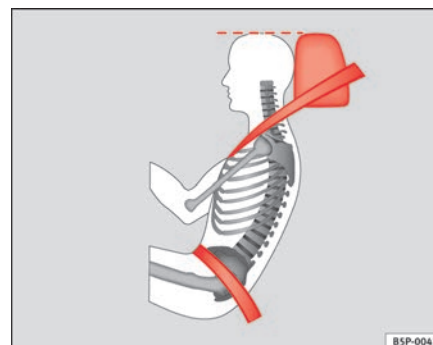

Fig. 14 Correct belt web and head restraint positions, viewed from side ▶
- The lap part of the seat belt must lie across the pelvis, never across the stomach. The seat belt must lie flat and snugly on the pelvis ⇒ page 25, fig. 14. Pull the belt tight if necessary to take up any slack.